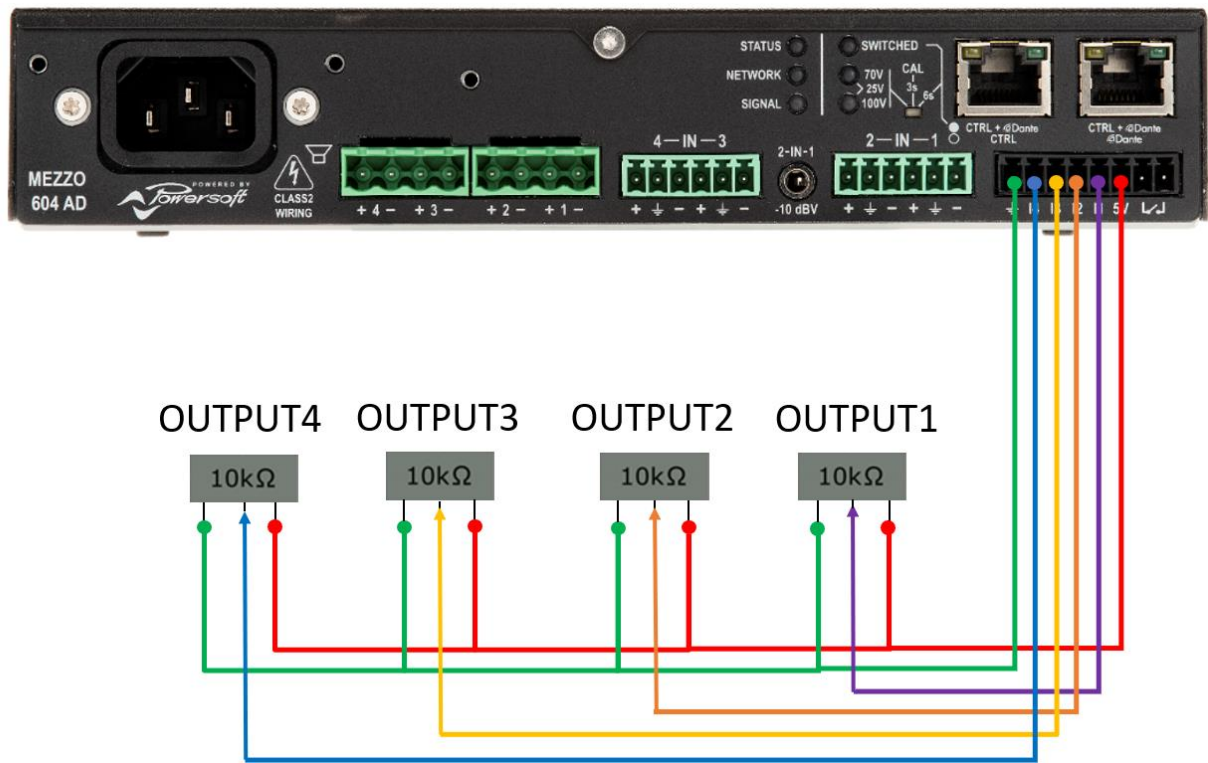

Figure 21 – Multiple Discrete 10kΩ Linear Taper Potentiometers Connected Across Multiple Channel's GPI on Mezzo
An option for controlling multiple channels on the Mezzo is to connect multiple 10kΩ linear taper potentiometers across 5v, Ground and the GPI pins of the amplifier channels you wish to control. In the connection scheme depicted below we are controlling Output Channels 1~4 with (4) distinct potentiometers (Figure 21).